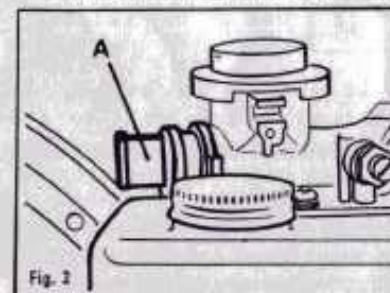

Fig. 2
1. Pull out choke 'A' on carburettor. (See Fig. 2)